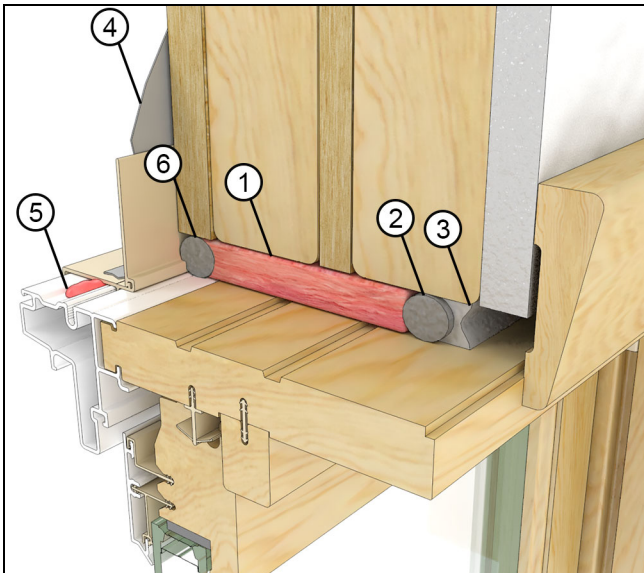

Figure 67
1. Loose Fill Fiberglass Insulation. Insulate the RO cavity with loose fill insulation. Install a backer rod and sealant at the interior plane of the RO to create a continuous air seal. See Figure 67.